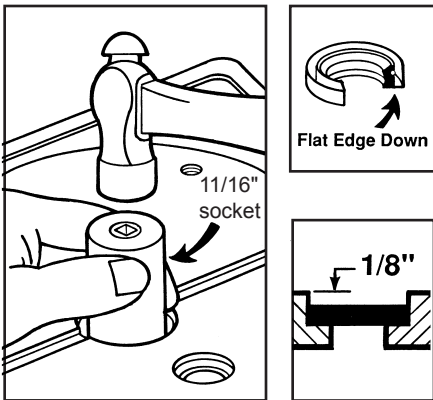

FIG. 7
3. Lay trap on flat surface with handle toward you. Press new shaft seal with flat side down into opening by hand. To seat, tap seal with 11/16" socket. Seal is properly seated 1/8" down from top edge (FIG. 7). Apply vaseline or grease to inside edges of seal.